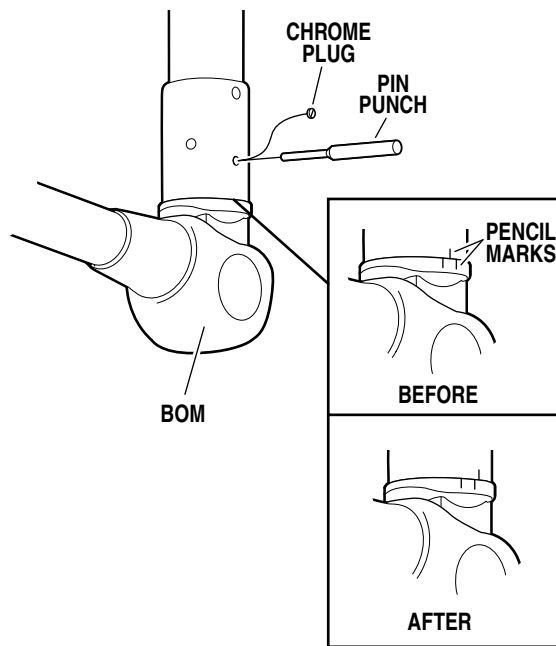

Figure 2-12. Horizontal Rotation Adjustment
c. If releveling the mounting plate or lubricating the BOM needle bearings does not correct the problem, an adjustment may be required. This adjustment is made by increasing or decreasing the bearing preload. Refer to figure 2-12 and proceed as follows:
g. To determine the amount of adjustment, rotate the lighthouse so the pin punch is touching one side of the adjustment hole and use a pencil to mark a reference line as shown in figure 2-12. Rotate the lighthouse so the pin punch is touching the other side of the adjustment hole and mark another reference line as shown in figure 2-12.